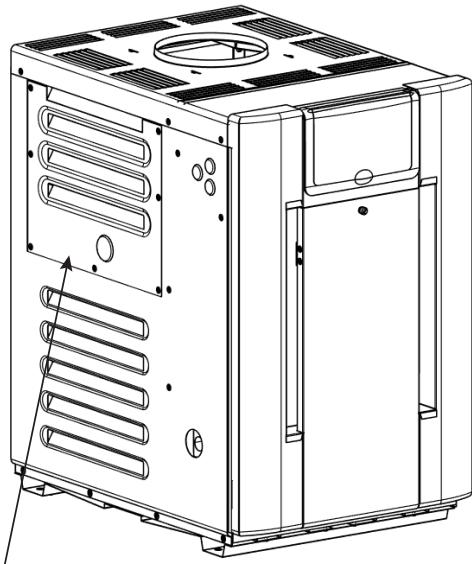

Figure 1. Return Header Panel Removal
7. Locate the service panel opposite from the inlet-outlet connections. (See **Figure 1**).